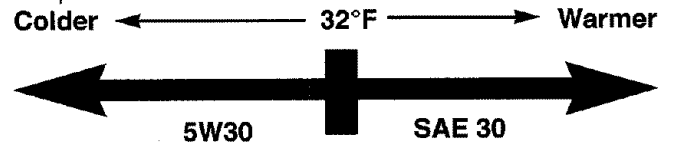

**FIGURE 11.**
- Bulky material, such as stalks or heavy branches, up to 3" in diameter, should be fed into the chipper chute. See figure 11.
- a. Remove oil drain plug. Refer to figure 11. Catch oil in a suitable container.